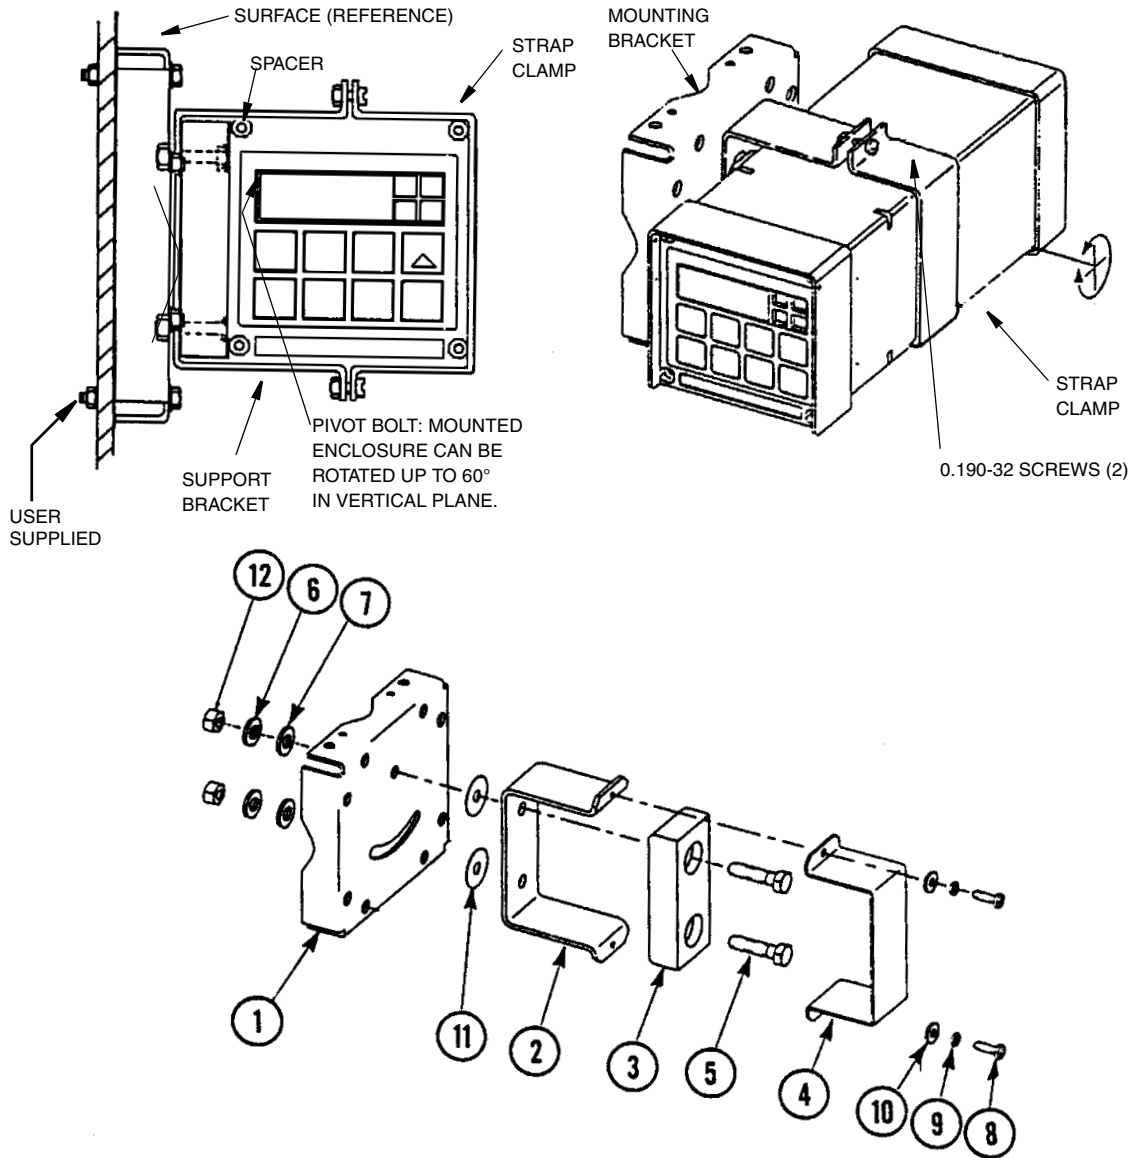

Figure 6. Metal Enclosure - Fixed Mount
2. Referring to Figure 6, use mounting bracket as template for drilling four holes into mounting surface. Notice that holes in mounting bracket are 8.74 mm (0.344 in) in diameter. Do not attach mounting bracket to surface at this time.
- a. Place hex bolts (5) through spacer (3) into support bracket (2).
- b. Slide nylon washers (11) over bolts (5).
- c. Slide bolts through universal mounting bracket (1) and fasten assembly together with hardware designated 7, 6, and 12.
- d. Attach universal mounting bracket (1) to wall.
4. Slide analyzer into support bracket and slide strap clamp (4) onto analyzer. Using two screws, nuts, and washers, attach strap clamp to support bracket to secure analyzer.